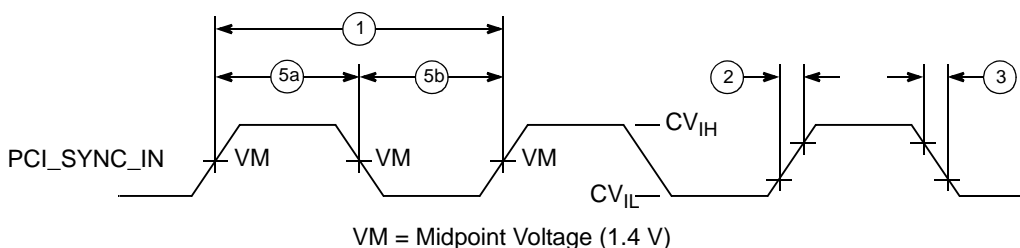
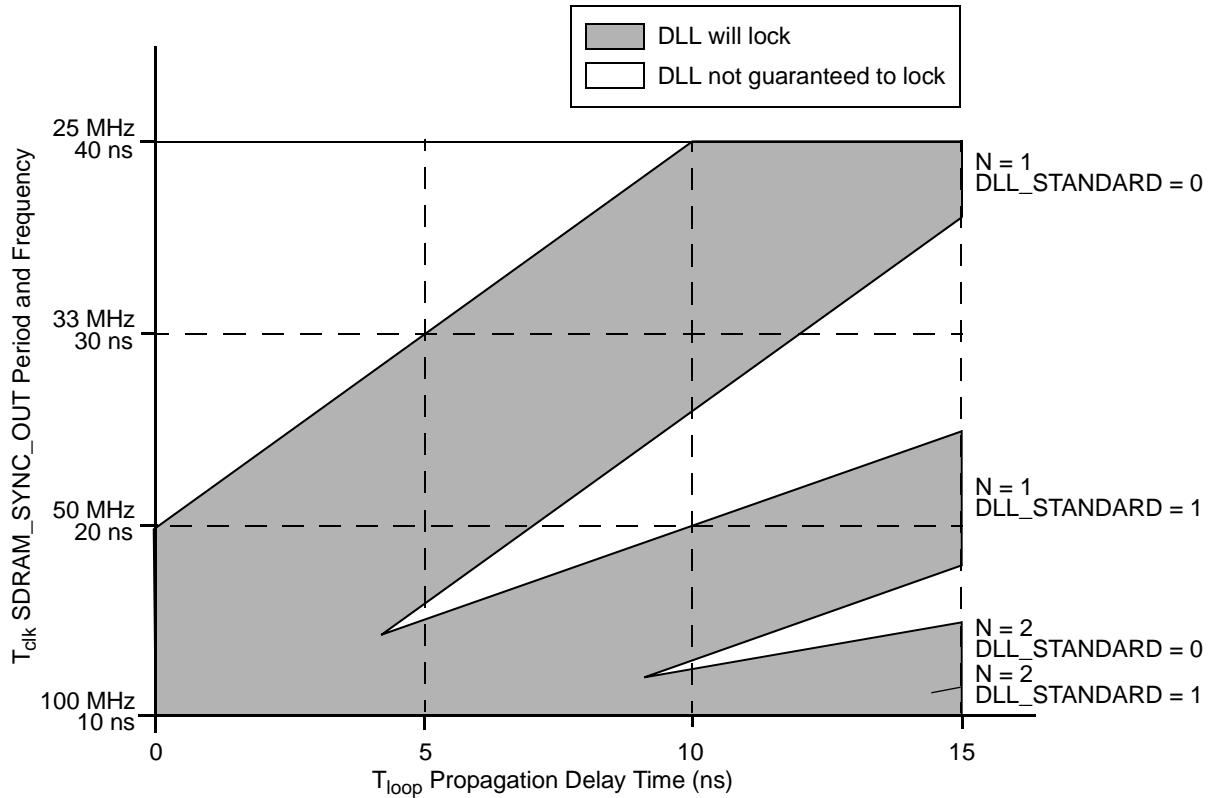

Figure 6. PCI_SYNC_IN Input Clock Timing Diagram
Figure 7. DLL Locking Range Loop Delay vs. Frequency of Operation
7. DLL_STANDAR is bit 7 of the PMC2 register <72>. N is a non-zero integer (1 or 2). T_{clk} is the period of one SDRAM_SYNC_OUT clock cycle in ns. t_{loop} is the propagation delay of the DLL synchronization feedback loop (PC board runner) from SDRAM_SYNC_OUT to SDRAM_SYNC_IN in ns; 6.25 inches of loop length (unloaded PC board runner) corresponds to approximately 1 ns of delay. t_{fix0} is a fixed delay inherent in the design when the DLL is at tap point 0 and the DLL is contributing no delay; t_{fix0} equals approximately 3 ns. See Figure 7 for DLL3 locking ranges.
Figure 6 shows the PCI_SYNC_IN input clock timing diagram, and Figure 7 shows the DLL locking range loop delay versus frequency of operation.